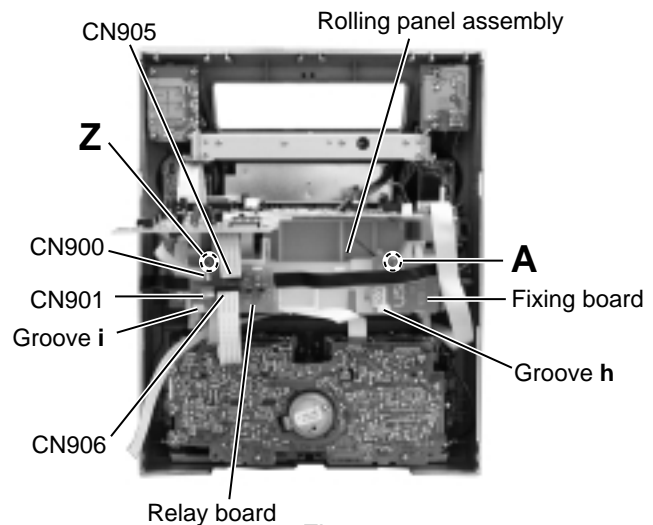

Fig.21
■ **Removing the relay board and fixing board (See Fig.21)**